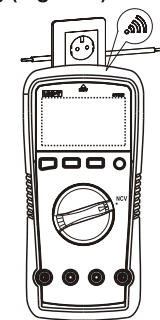

Figure 5
7. Non-Contact AC Electric Field Sensing (Figure 5)